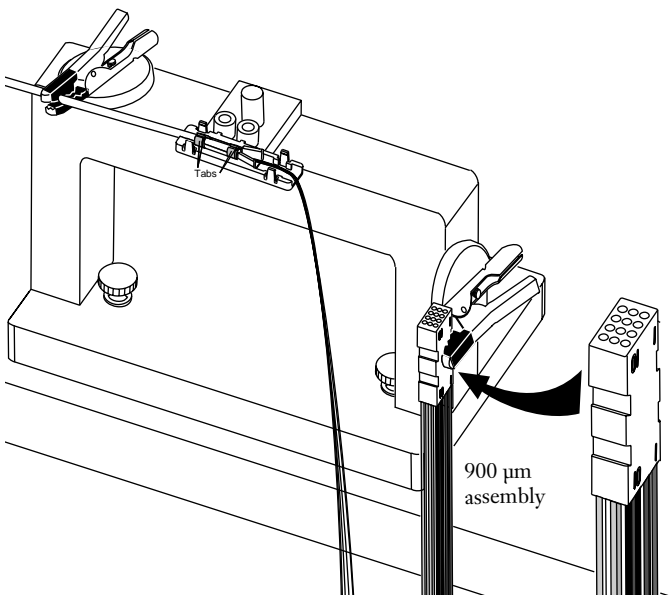

Figure 13
**6.10** Hang the 900 μm assembly vertically from the assembly platform with the other clip as shown in Figure 13. Note the number markings on the assembly's plastic housing.